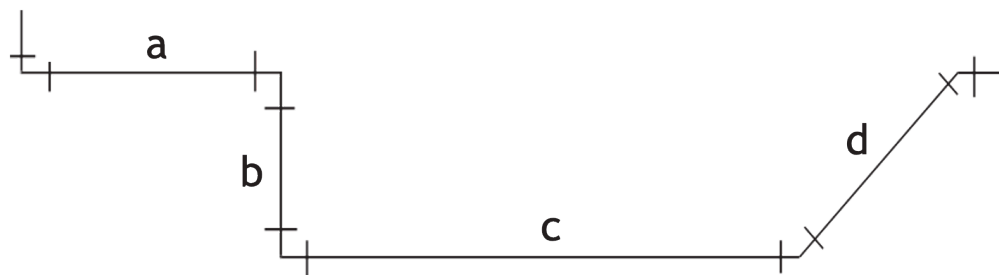

Figure 3 Scale 1-20 illustration for Questions 4 and 5
4. Using Figure 3 give the C—C (centre to centre) lengths of each section of pipe in mm, using a metric scale.
5. What would the lengths be in Figure 3 if the scale was 1:50?